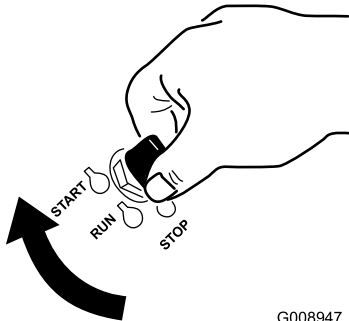

Figure 15
1. Turn the ignition key to the Start position (Figure 15). When the engine starts, release the key.
- Turn the ignition key to the Start position (Figure 15). When the engine starts, release the key.